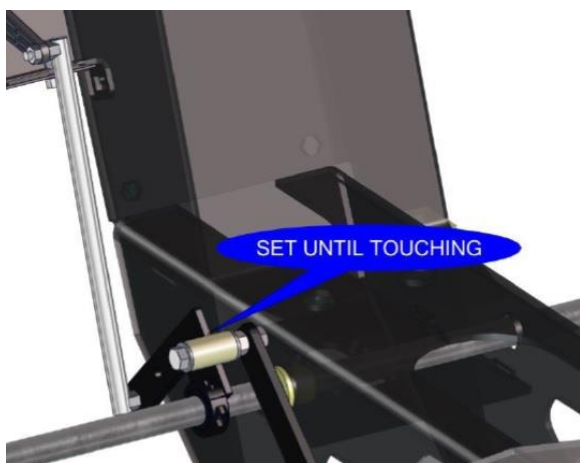

Figure 18
5. When the end paddle activation tab is set adjust the sensor activation tab at the struts next to the center. Set the activation tab (with the sensor linkage installed) until the activation tab is just touching the roller on the arm. Figure 18